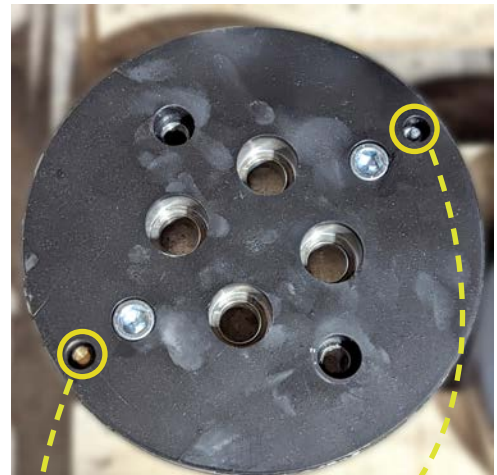

Figure 4. Align grease and breather fittings
6. Install drum cap but ensure the grease fittings line up with the two through holes on the drum. You may need to use an alignment bolt to make it easier to ensure proper drum cap position. Once it is lined up lightly tap on it until you can install the 4 M24 x 90 mm bolts to secure the cover to the end of the shaft. Figure 4. These bolts are torqued to 908 dry ft/lbs.